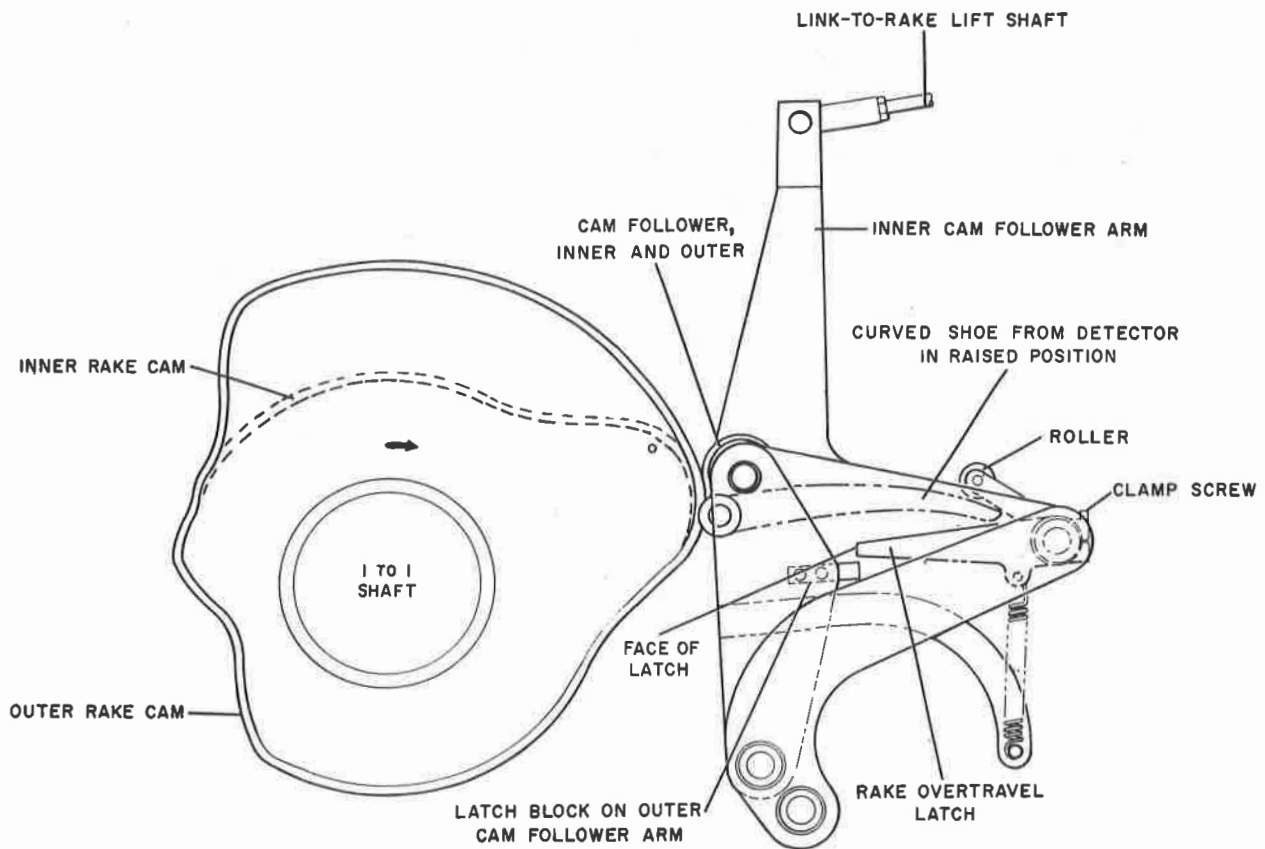

Figure 62. Rake Overtravel Latch
4. RAKE BOARD OVERTRAVEL LATCH ADJUSTMENT. (FIGURE 62)